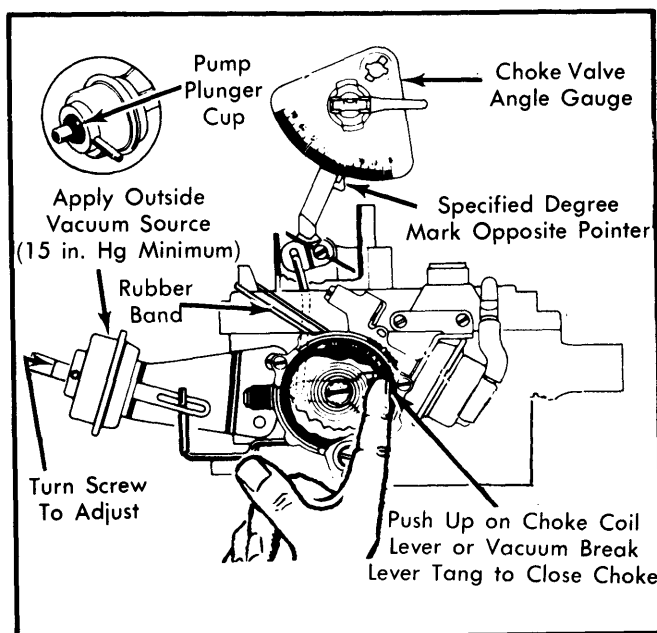

Fig. 8 Adjusting Secondary (Rear) Vacuum Break
1) Remove vacuum break from carburetor. Place bracket in vise and grind off adjustment screw cap. Reinstall vacuum break unit. On delay models with air bleed, plug end cover using an accelerator pump plunger cap. Using an outside vacuum source of at least 15 in. Hg, seat vacuum diaphragm. See Fig. 8. Remove cup after adjustment. Make sure bucking spring (if equipped) on diaphragm plunger is compressed and seated.